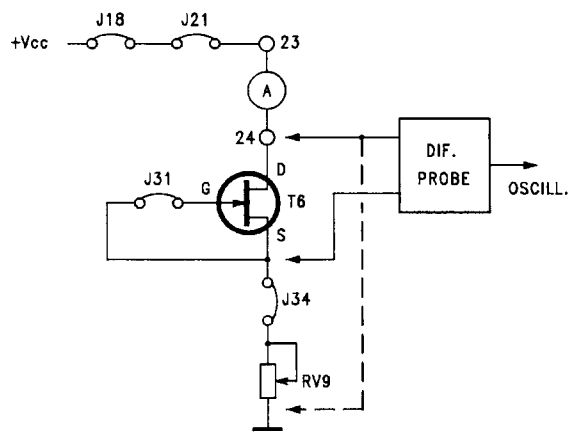

fig.B14.22
- Adjust the variable power supply voltage to +24 Vdc. Connect jumpers J18, J21, J31, J34, the ammeter between points 23 and 24 and the oscilloscope as shown (!!! use the differential probe !!!), to produce the circuit of figure B14.22